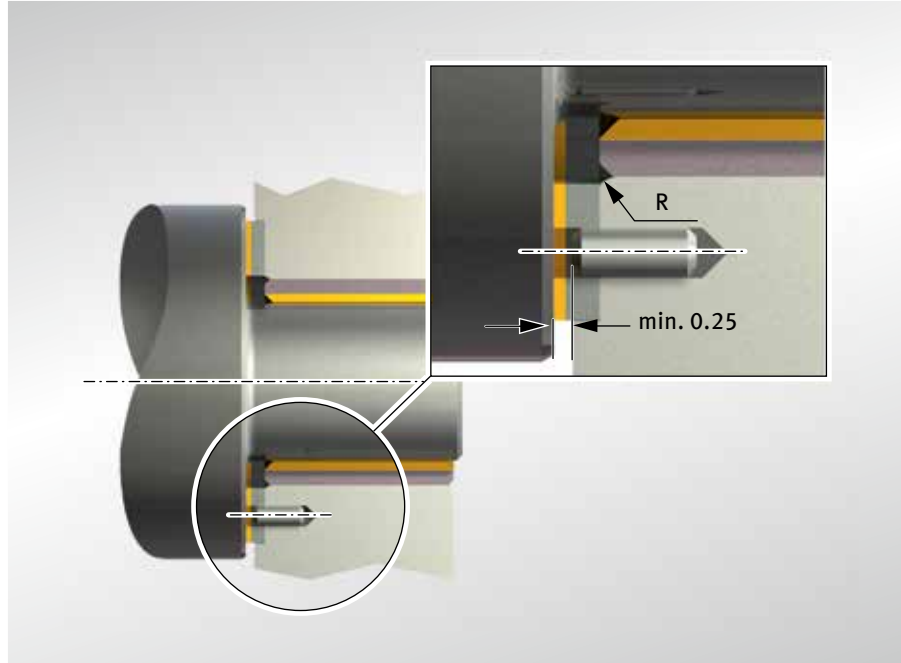

Fig. 40: Securing a PAW thrust washer in a recess in the housing
- A concentric fit is ensured by the recess in the housing (Fig. 40)
- Unwanted rotation with the shaft is prevented by means of a dowel pin or countersunk screw (Figs. 40 and 41)
- The screw head or dowel pin must be recessed by min. 0.25 mm from the sliding surface (Figs. 40 and 41)